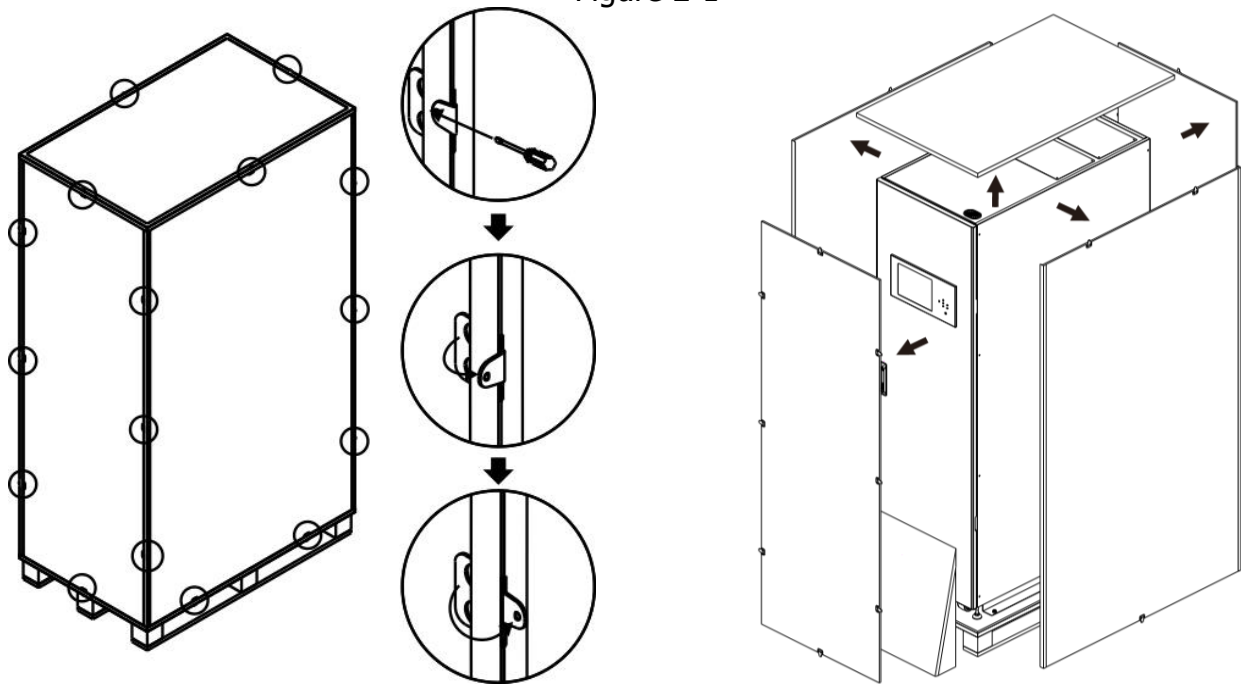

Figure 2-2
2. Please follow the orders in Figure 2-2 to remove carton and foams.